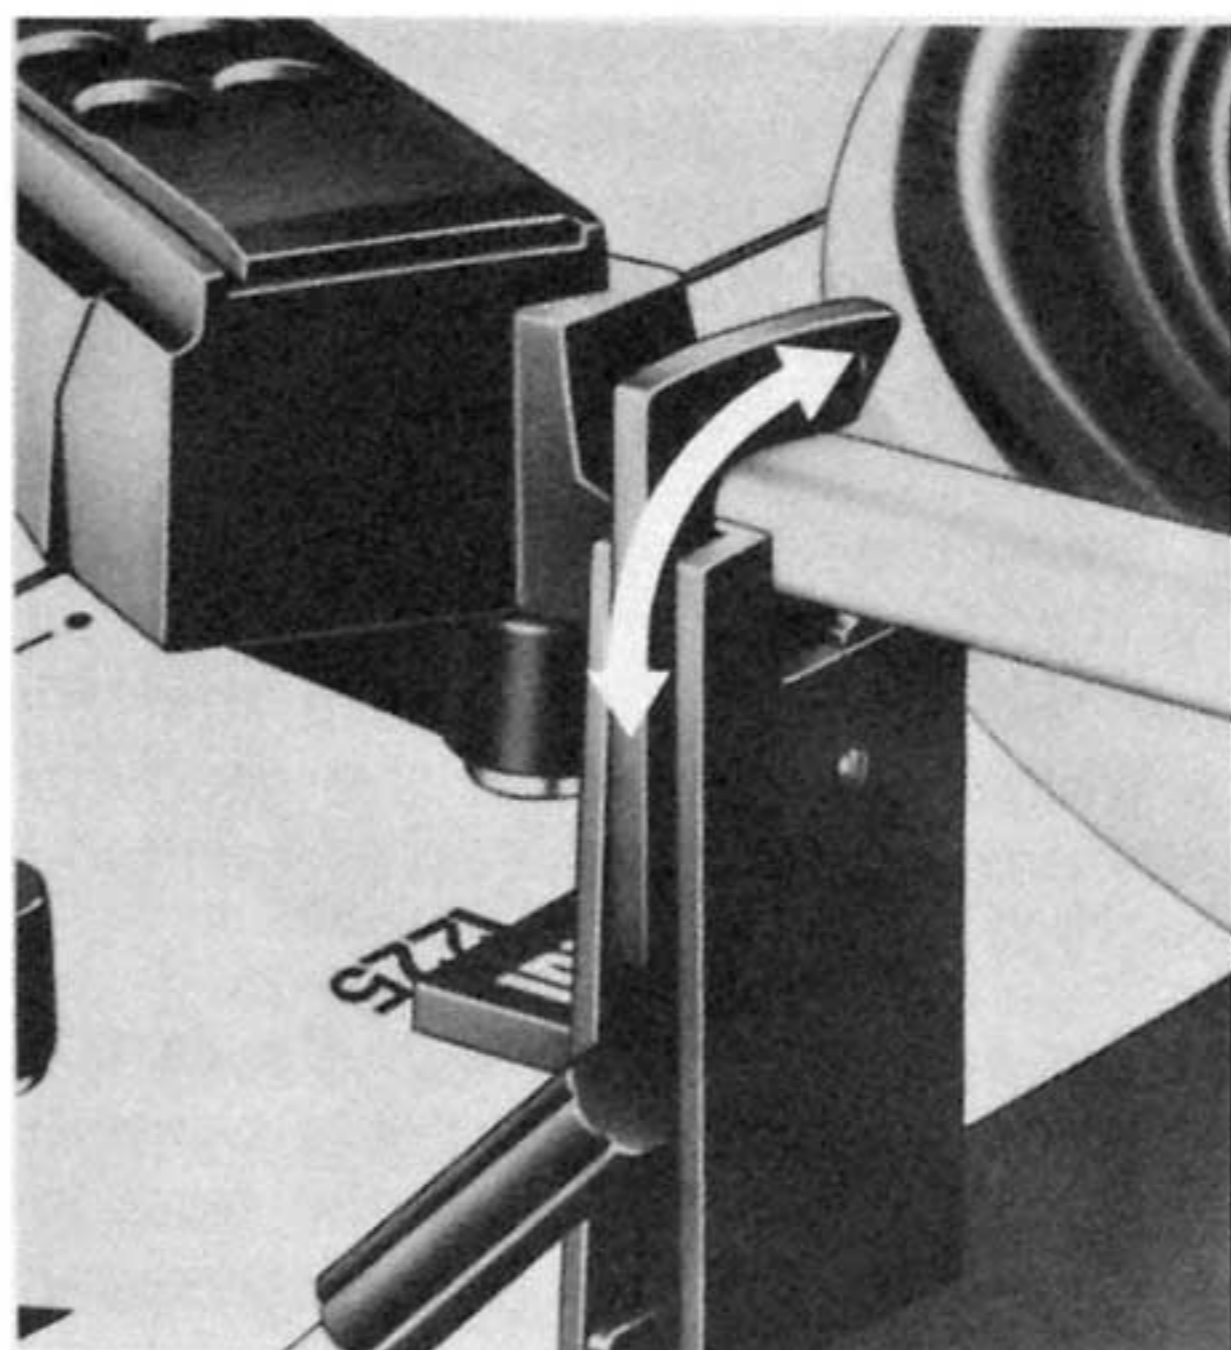

Fig. 7
Select the platter speed 33 1/3 or 45 rpm ⑭ and release the tonearm (Fig. 7).
After the record has been played, shut-off and tonearm return is automatic. The tonearm should then be locked (Fig. 7).